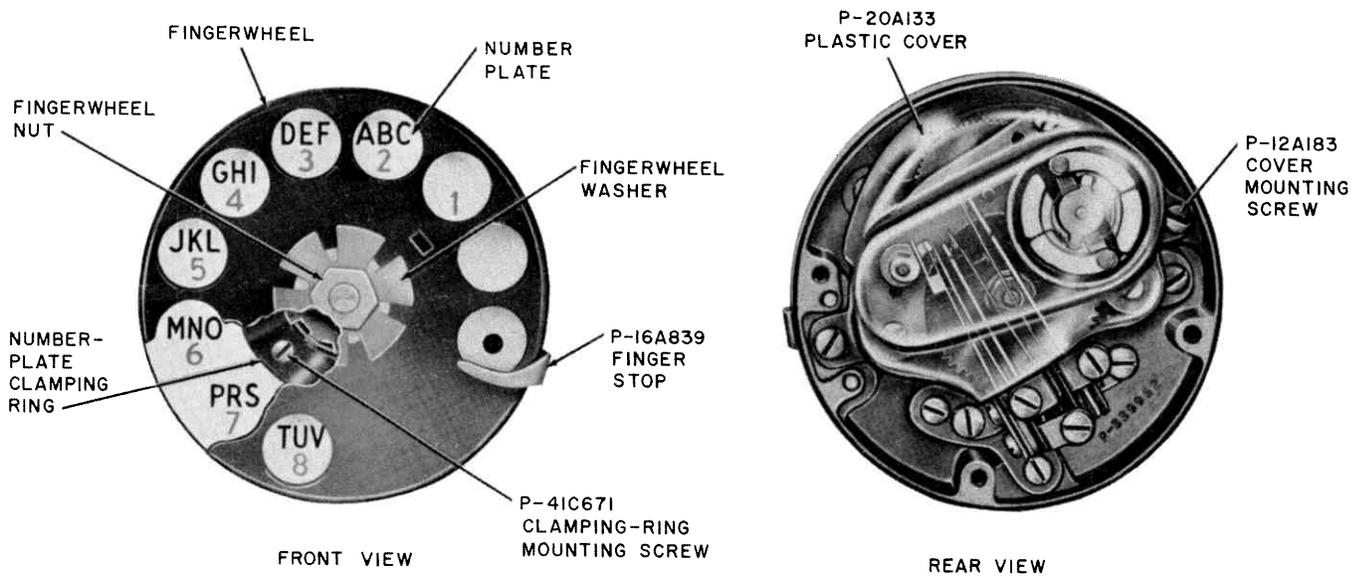

Fig. 4 — 6-Type Dial
2.03 See Tables D and E and Fig. 4 for usage and assembly of parts.